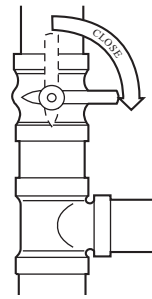

Fig. 5 - Close Valve
3. Turn **off** electrical supply to the furnace. (See Fig. 5.)